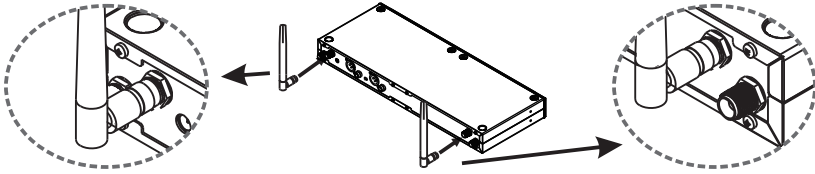

Fig. 4
(A) Install supplied 5.8 GHz receiver TNC antenna A & B at TNC Antenna Connector ⑪ . Fig. 4